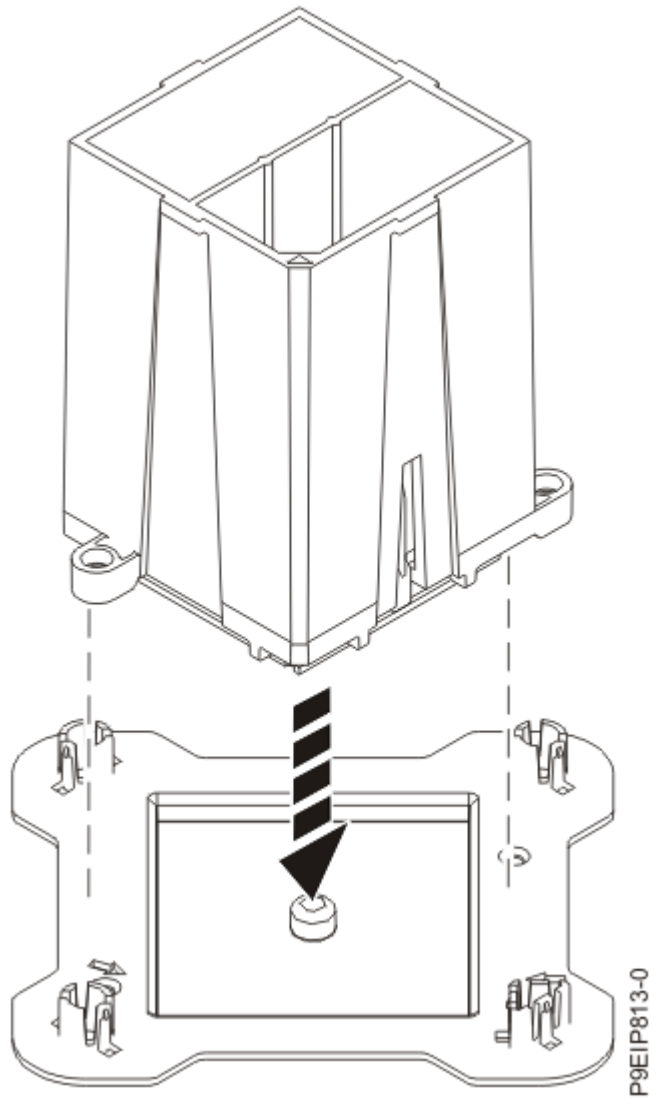

Figure 59. Placing the system processor module at an angle on the top cover of the packaging
10. Hold the outside of the tool and lift the tool and system processor module from the socket. Place them at an angle on the top cover of the system processor module packaging as shown in Figure 59 on page 66.